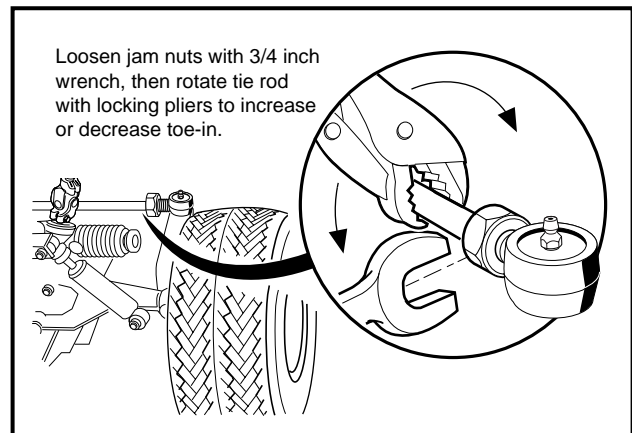

Figure 7-19 Adjust Toe-In
6. If adjustment is necessary, loosen the jam nut on each tie rod ball joint and rotate the tie rod to increase or decrease toe-in **(Figure 7-19, Page 7-15)**. **See following CAUTION.**